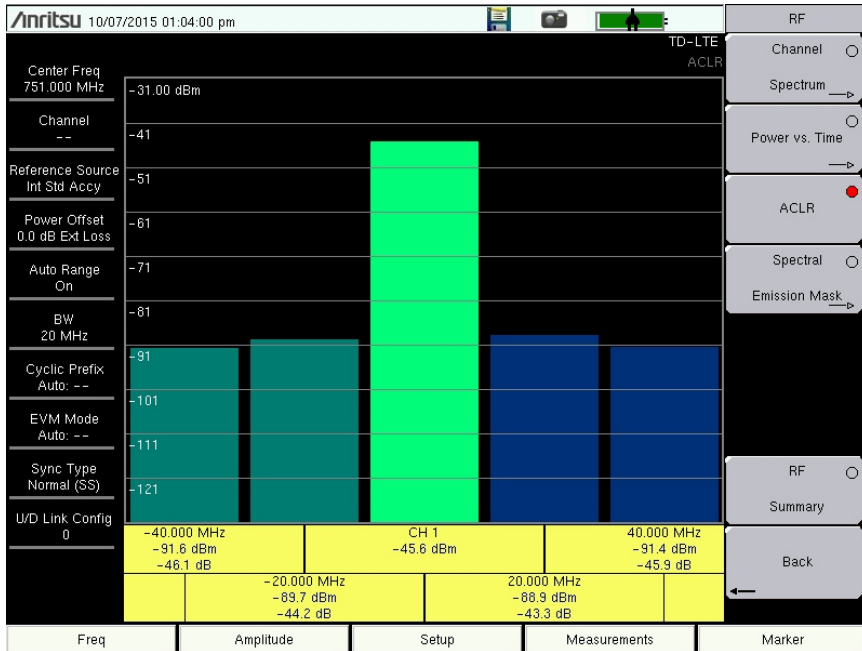

Figure 6-4. Adjacent Channel Leakage Ratio
3. Press the ACLR submenu key to activate ACLR display and measurement (Figure 6-4).